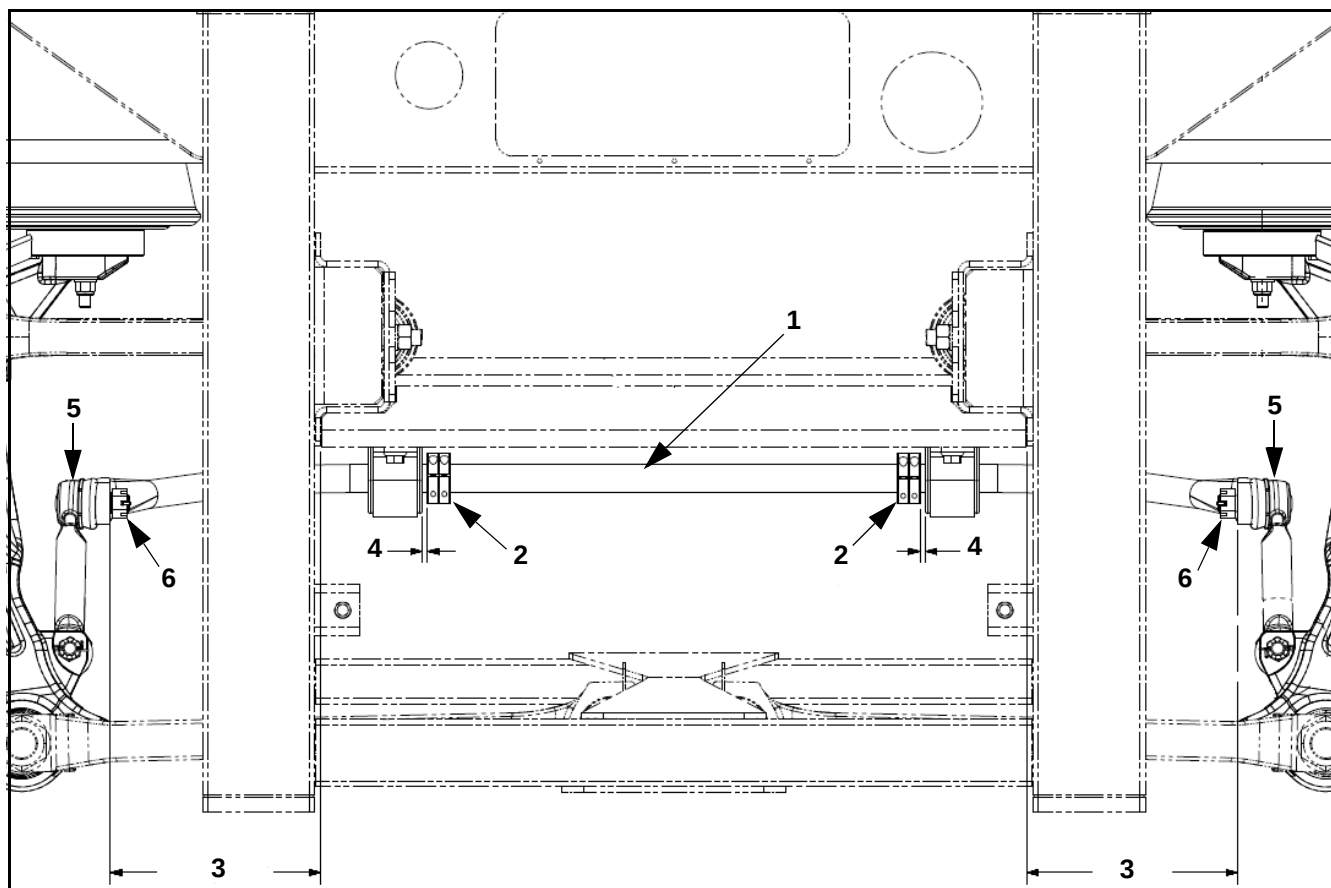

Figure 2. Sway bar installation.
DO NOT remove the existing sway bar links (refer to Figure 2 / Item 5).
Loosen only, DO NOT remove the existing castle nuts from the sway bar linkage (refer to Figure 2 / Item 6). Leave the two (2) castle nuts at least half way tight on the sway bar linkage stud.
Using a hammer, tap both ends of the sway bar to break the joint between the sway bar ends and the linkage (refer to Figure 2 / Items 1 and 5).
Once the joints between the sway bar and the linkage open up, remove and retain the castle nuts to be re-installed at a later step in this procedure (refer to Figure 2 / Item 6).
4. Install the new sway bar and service kit components as shown in Figures 2 and 3.
Item	Figure 2 Description